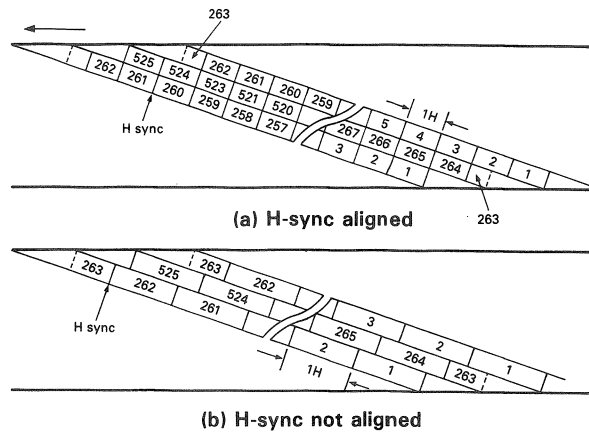
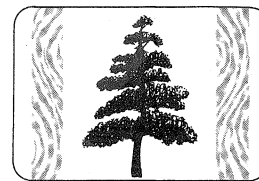

Fig. 23 H-sync Alignment
Fig. 24 Vertical Stripes
The horizontal sync pulses are aligned in the track pattern when recording in β 1-hour or VHS 2-hour mode as shown in Fig. 23 (a). With this pattern the cross talk H-sync does not interfere with the main H-sync because they are read out at the same time. In the β 2-hour and VHS 4-hour, however, the H-syncs are not aligned. The H-syncs advance or delay from those of the adjacent tracks by $0.75H$ or $0.25H$ as shown in Fig. (b). The H-sync cross talk produces vertical stripes on the screen as shown in Fig. 24 because azimuth recording is not so effective to the deeply recorded sync signal which is much lower than Y-signal in frequency. To avoid this trouble β and VHS (EP mode only) shifts Y-carrier by $f_H/2$ (7.9kHz) every other track. The beat frequency becomes an odd multiple of $f_H/2$ and the interfering noise becomes invisible with visual integration effect. Refer to p-13, Carrier Interleaving.
7.2.1 Phase Inversion (PI) Fig. 23.
- This method records information by inverting signal phase every other horizontal period (H) on A-tracks and ↗